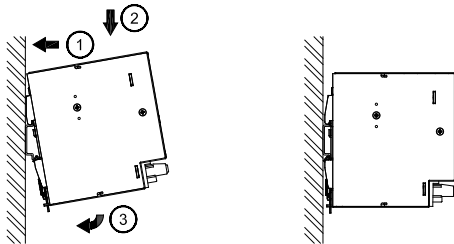

Figure 2
3. Mounting (Fig. 2)
The power supply unit can be mounted on 35 mm DIN rail in accordance with EN60715. For Vertical Mounting, the device should be installed with input terminal block on the bottom. For Horizontal Mounting, the device should be installed with input terminal block on the left side. Each device is delivered ready to install. Snap onto the DIN rail as shown in Fig. 2: